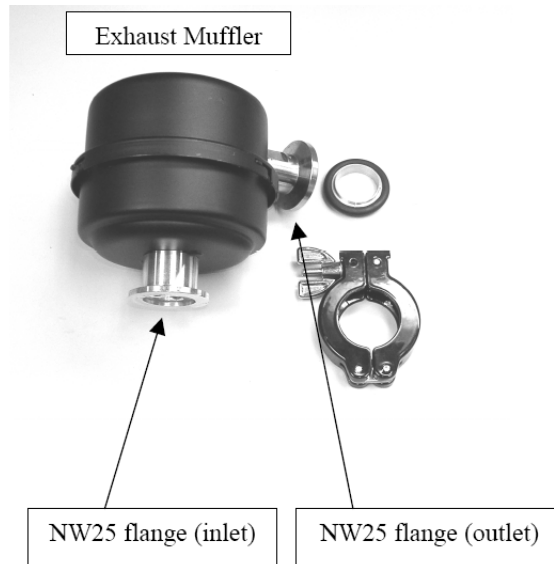

Figure 1-8 Exhaust Muffler Kit: Exploded View
1. Clamp the inlet of the muffler (NW25) to the NW25 flange on the outlet of the 1/2" Tygon tubing downstream from resonator. The inlet of the muffler has three small holes in the flange (Figure 1-8).